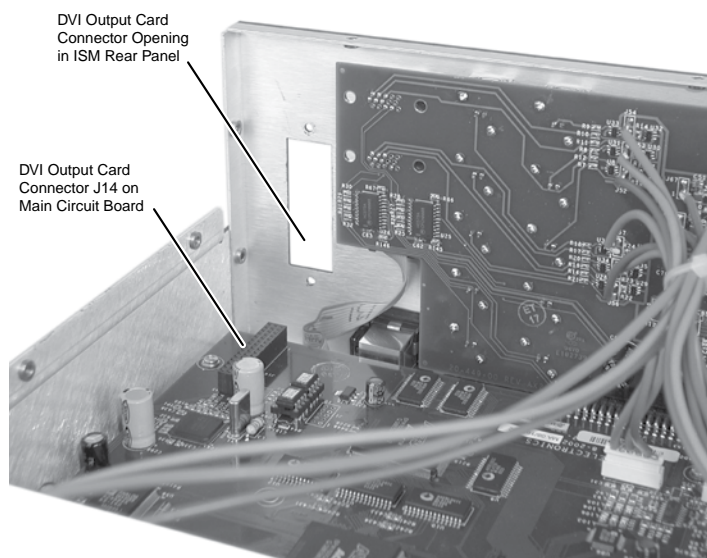

Figure 51. DVI Output Card Connector Opening and Socket J14
2. Locate the DVI output card connector opening on the rear panel and the DVI output card connector J14. When viewed from the front, connector J14 is in the far left corner of the main circuit board (see figure 51).